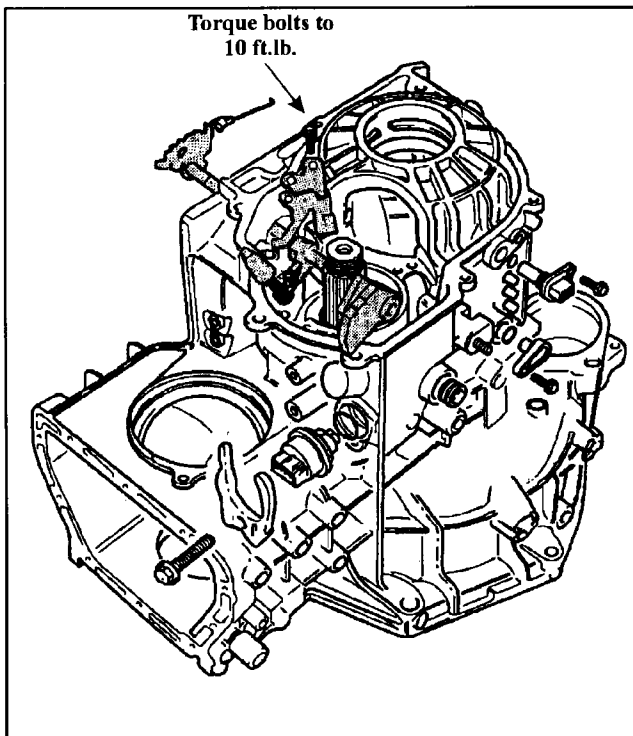

Figure 109
1. Insert the manual selector shaft into the transmission then slide the park rod lever and the detent actuator onto the manual selector shaft (See Figure 109).